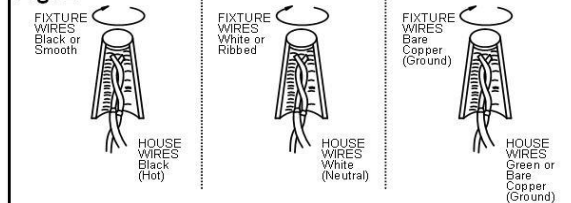

Fig.3
7. Align back plate (N) onto mounting plate (C) and secure with the rubber washers (K) and cap nuts (L).
8. Separate lamp body (P) from top cover (M) by unscrewing the mounting screws (Q). Align the glass (O) into body (P) and secure with glass clips (S).
9. Re-attach body (P) to the top cover (M) with mounting screws (Q).
10. To prevent moisture from entering the outlet box and causing a short, use clear caulking (i.e. Indoor/Outdoor Silicone Sealant) to outline the outside of fixture back-plate where it meets the wall leaving a space at bottom to allow moisture a means to escape (Fig 3).